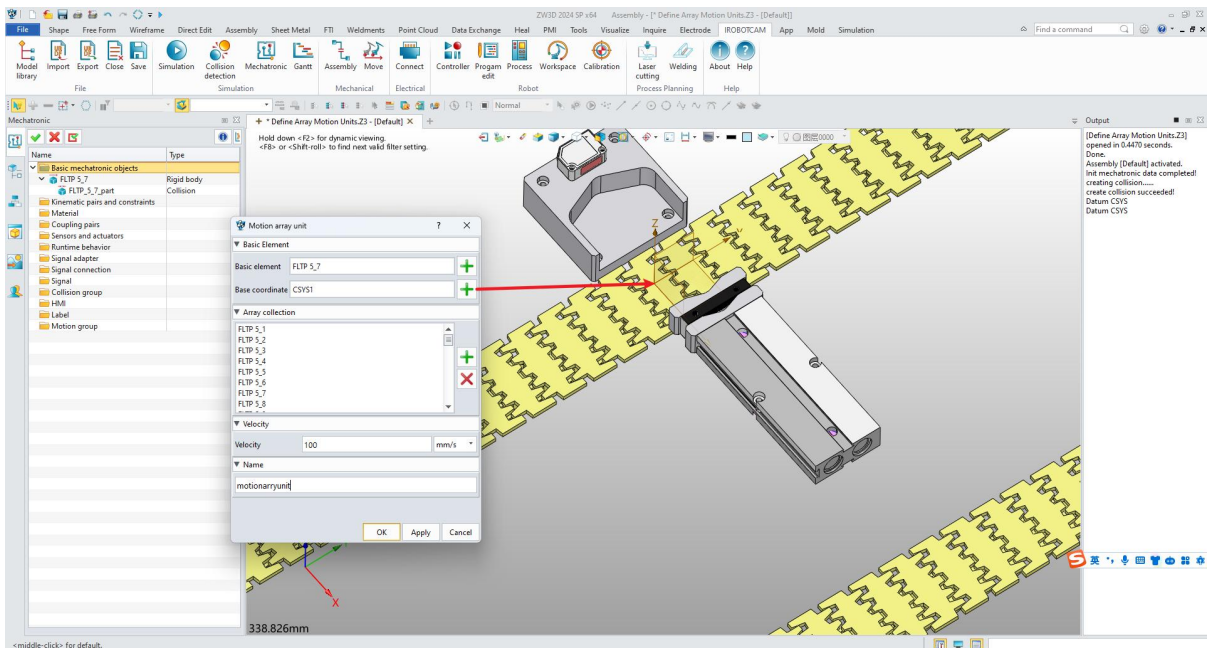

Figure 7-10: Basic Object
- Assign a descriptive "Name" for easy identification. (Figure 7-10)